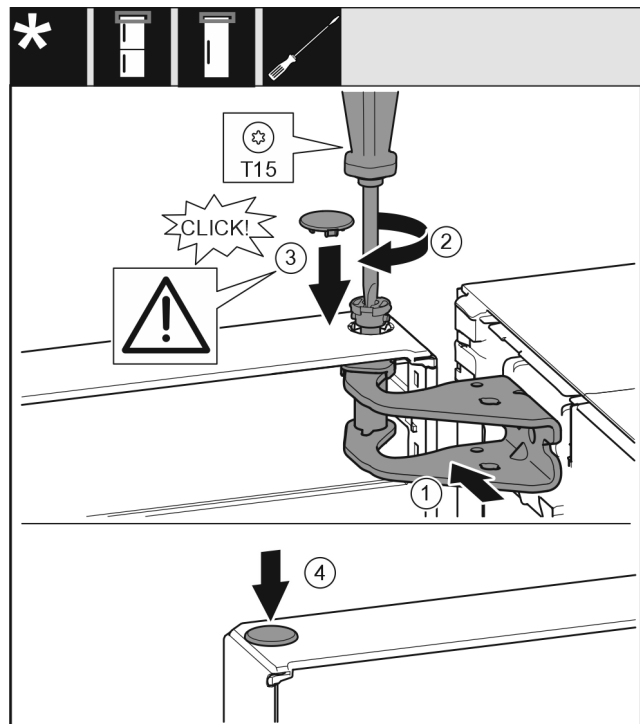

Fig. 23
- Align the top of the door with opening in the bearing bracket. Fig. 23 (1)
- Insert the bolt Fig. 23 (2) and use screwdriver to tighten it.
- Fit the safety cover Fig. 23 (3) to secure the door: Insert the safety cover and check whether the door is resting on it. Otherwise, insert the bolt fully.
- Insert the plug Fig. 23 (4).